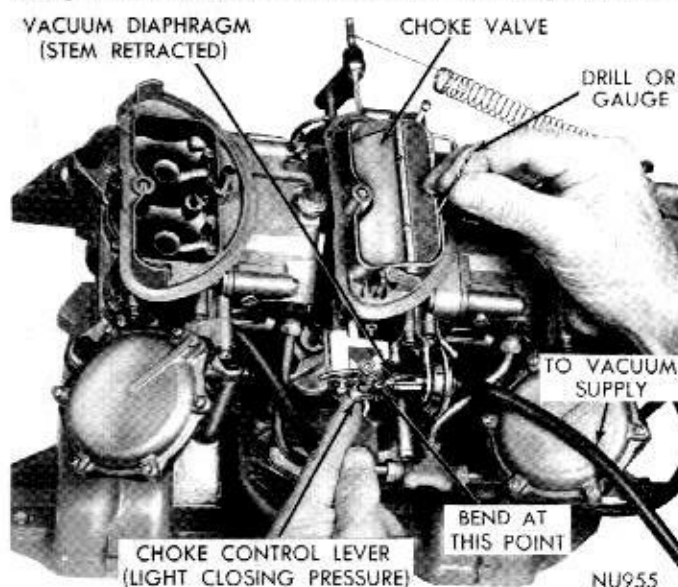

Fig. 29—Vacuum Kick Adjustment
(1) If the adjustment is to be made with the engine running, position the fast idle tang (Fig. 29) (Cam position adjustment) to allow choke closure to kick position. If auxiliary vacuum source is to be used, open throttle valves, (engine not running) and move choke to closed position. Release throttle first, then release choke.
(2) When using an auxiliary vacuum source, disconnect the vacuum hose from the carburetor and connect it to the hose from the vacuum supply with a small length of tube to act as a fitting. Removal of the hose from the diaphragm may require forces which could damage diaphragm. Apply a vacuum of 10 or more inches.
(3) Insert the specified drill (see specifications) between the choke valve and the wall of the air horn (Fig. 29). Apply sufficient closing pressure on the lever to which the choke rod attaches to provide a minimum choke valve opening without distortion of the diaphragm link. Note that the cylindrical stem of the diaphragm will extend as an internal spring is compressed. This spring must be fully compressed for proper measurement of the vacuum kick adjustment.
(4) An adjustment will be necessary if a slight drag is not obtained as the drill is being removed.